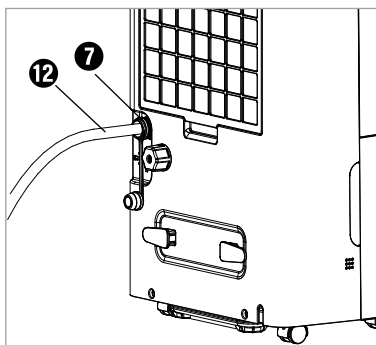

Fig. 3
- ◆ Insert the supplied hose 12 into the water outlet opening 7 (see Figure 3).